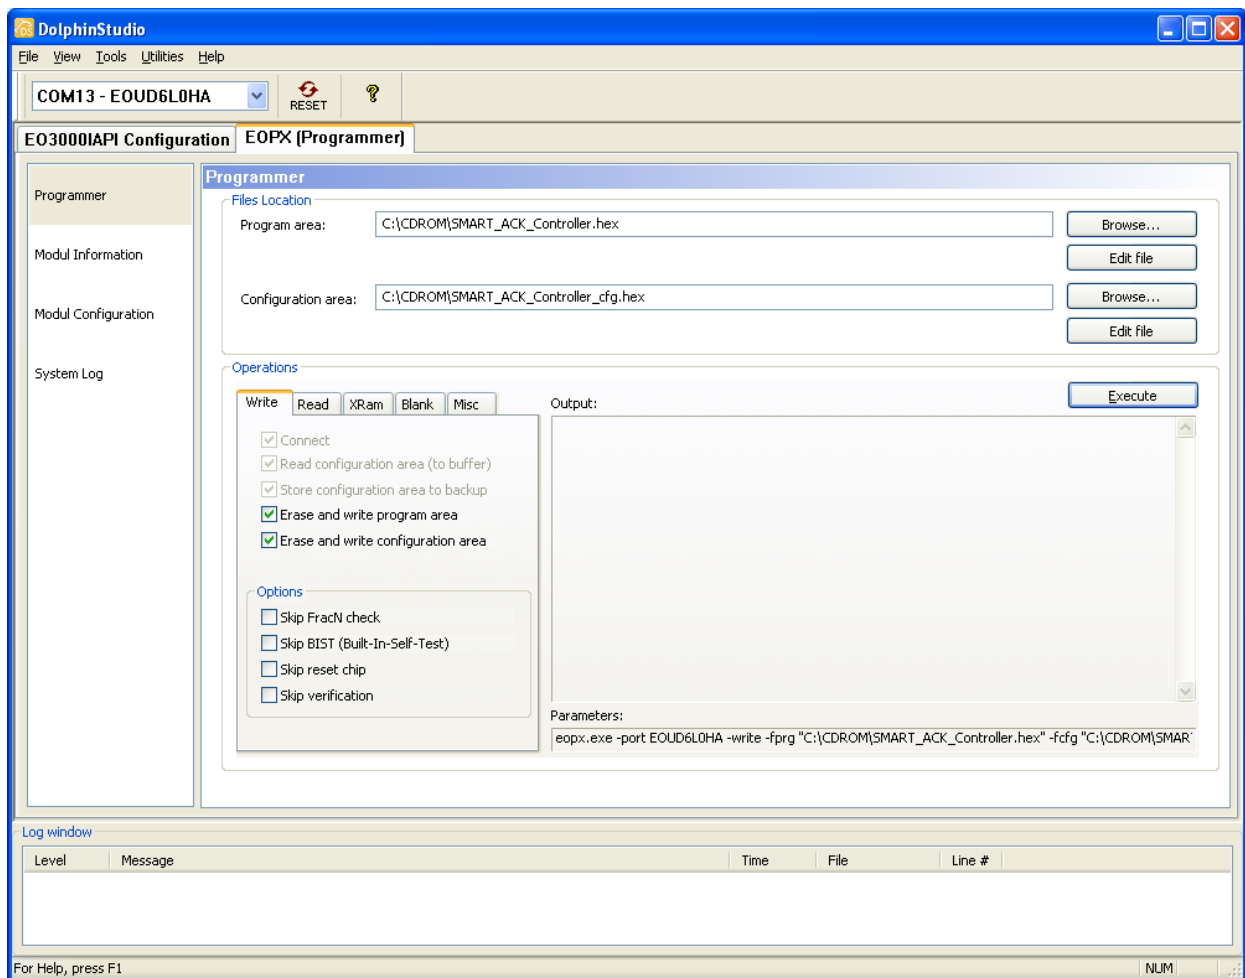

Figure 35 - DolphinStudio - Download Program
7. Select Operation **Write** with the options as shown in **Figure 35**
8. Select Operation **Write** with the options as shown in **Figure 35**